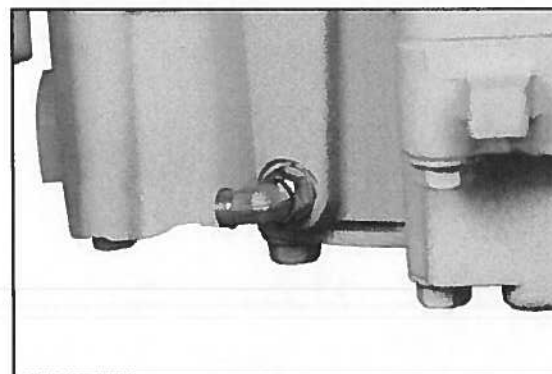

Fig. 17 (Left side shown)
9. Remove the Transmission High Pressure port plug and securely install the 90° elbow fitting (379486) supplied with the PTO (**Fig. 17**). See page 15 for pressure port locations on Allison transmissions.